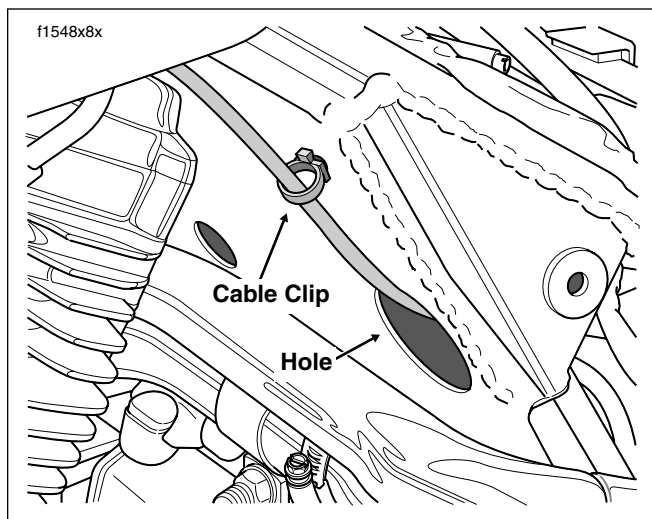

Figure 8-136. Cruise Cable Routing (Left Side)
8. Pull anchored cable clip from hole in frame crossmember. See Figure 8-136.
4. Feed cruise cable and connector through hole in frame crossmember. See Figure 8-136.
8. Capture cruise cable in cable clip and anchor in hole of frame crossmember. See Figure 8-136.